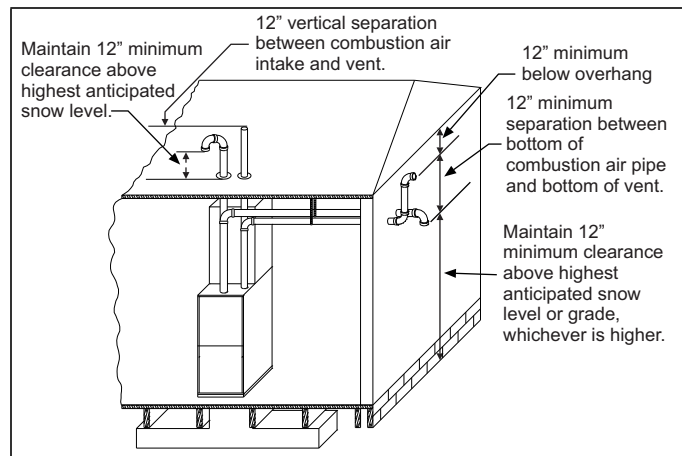
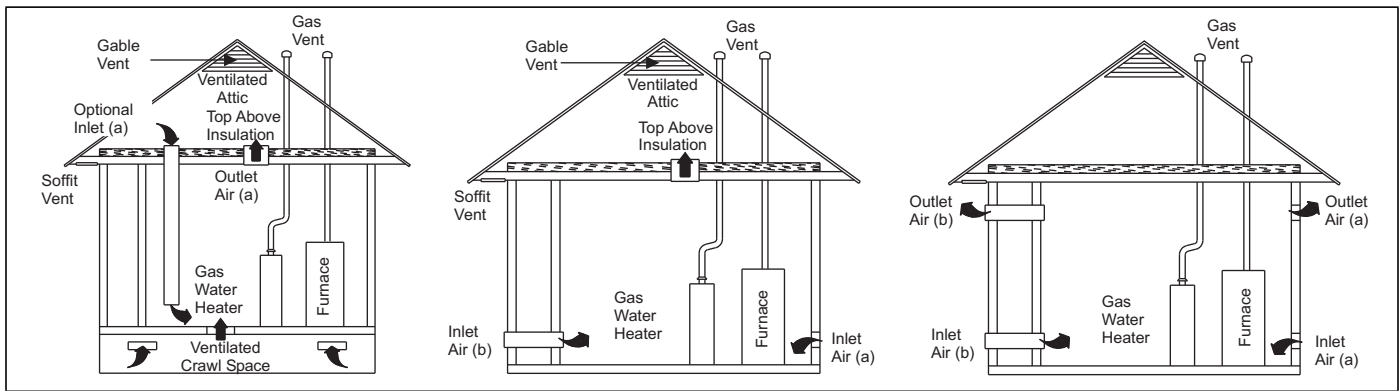

FIGURE 36: Termination Configuration - 2 Pipe
FIGURE 43: Ambient Combustion Air
The combustion air side of the single pipe configuration shown in Figure 43 is referred to in these instructions as ambient combustion air supply. Follow the instructions for ambient combustion air installations, paying particular attention to the section on air source from inside the building. The vent for a single pipe system must be installed as specified in the venting section of these instructions with both vents terminating as shown in Figure 36. Each furnace must have a separate vent pipe. Under NO circumstances can the two vent pipes be tied together.
2. **AMBIENT COMBUSTION AIR:** Combustion air is supplied from the area surrounding the furnace through openings in the furnace casing. The combustion air and the vent pipes are not terminated in the same atmospheric zone. Refer to Figure 36 for vent terminations. Refer to "Ambient Combustion Air Supply" for proper installation. Refer to Figures 43 and 44.